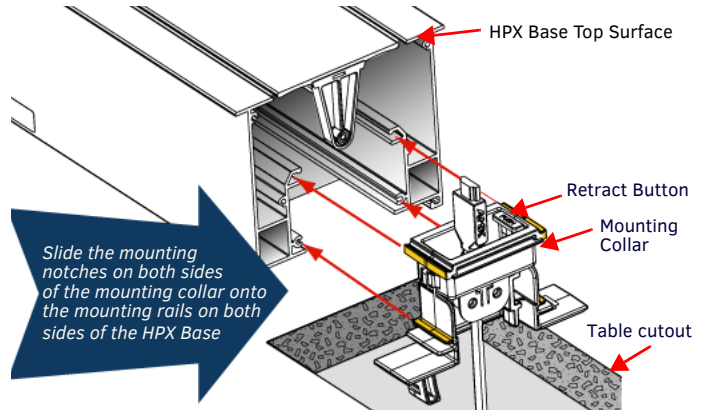

**FIG. 4** HPX-AV103-RGB+A-R MOUNTING COLLAR REMOVAL
6. Pull the cable cartridge trigger (FIG. 4) to release the mounting collar tongue.
4. Push the cable cartridge trigger up onto the mounting collar tongue until it latches (opposite of FIG. 4).
1. Detach the cable cartridge from the mounting collar using the trigger and slide method described in FIG. 4.